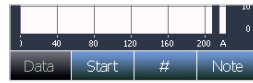

Figure 18.18
- **Source Position** is used for indicating the different loudspeaker or tapping machine positions. This may be a requirement by the standard. Instead of entering this setup menu to change the source position, use the # soft key in SPL mode display (Figure 18.18).